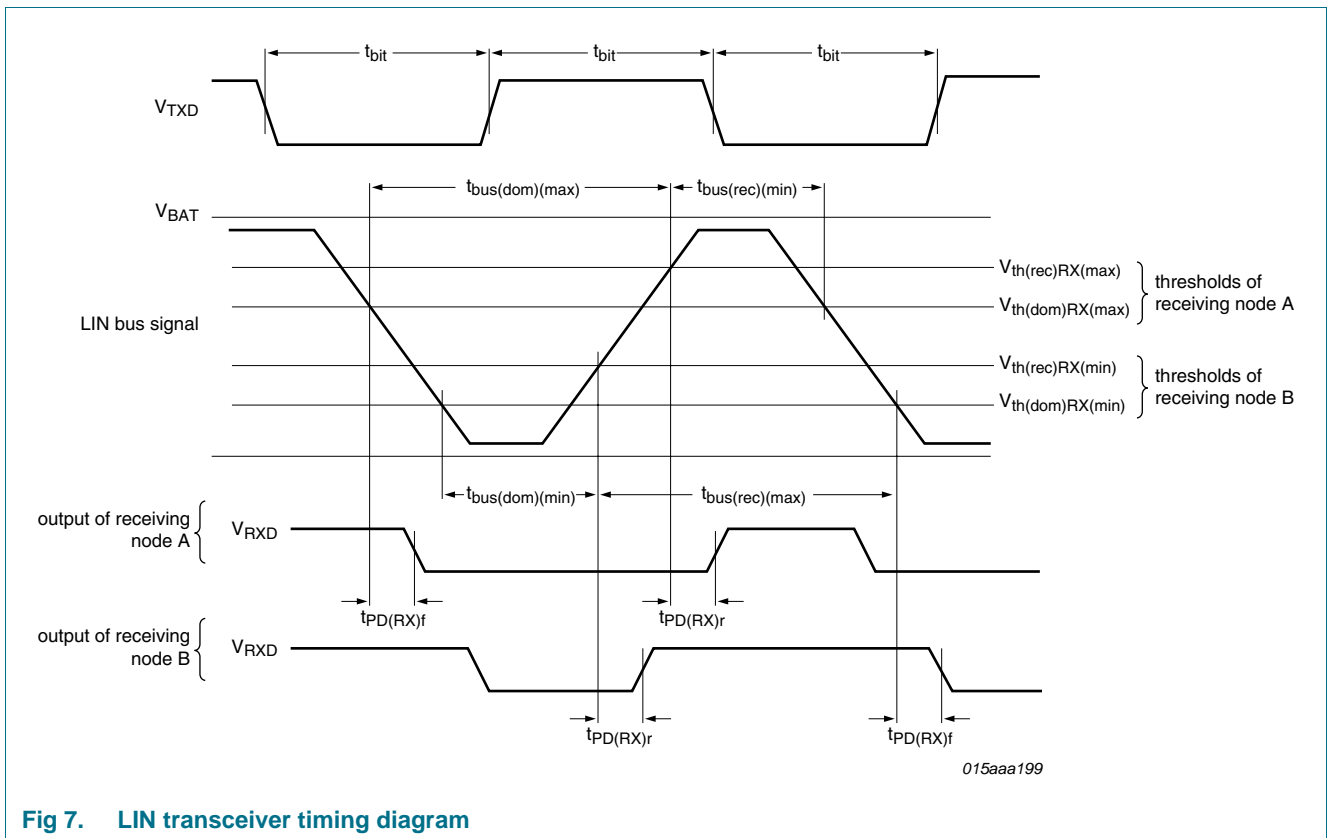

Fig 7. LIN transceiver timing diagram
[2] See Figure 7.
- [3]  $\delta 1, \delta 3 = \frac{t_{bus(rec)(min)}}{2 \times t_{bit}}$ . Variable  $t_{bus(rec)(min)}$  is illustrated in the LIN timing diagram in Figure 7.
- [6]  $\delta 2, \delta 4 = \frac{t_{bus(rec)(max)}}{2 \times t_{bit}}$ . Variable  $t_{bus(rec)(max)}$  is illustrated in the LIN timing diagram in Figure 7.